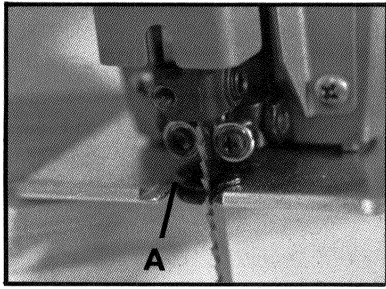

Fig. 7
A base insert #48367 (A) Fig. 7, is furnished with your bayonet saw. This base insert will reduce splintering top fibers of plywood.